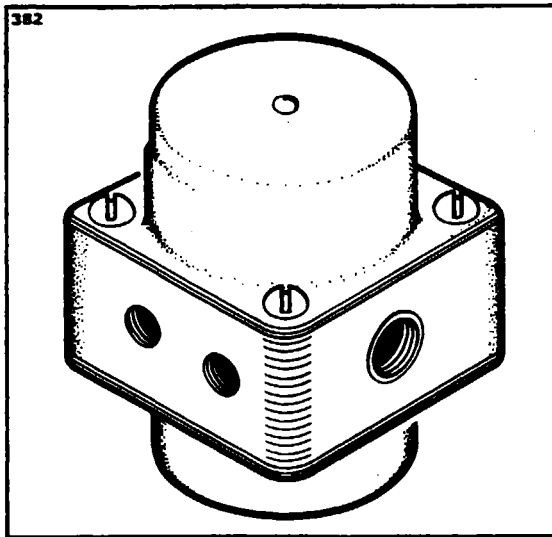

Figure 13-23. Fuel Regulator and Shutoff Valve
**13-94. FUEL REGULATOR AND SHUTOFF VALVE.** (Refer to Figure 13-23.)